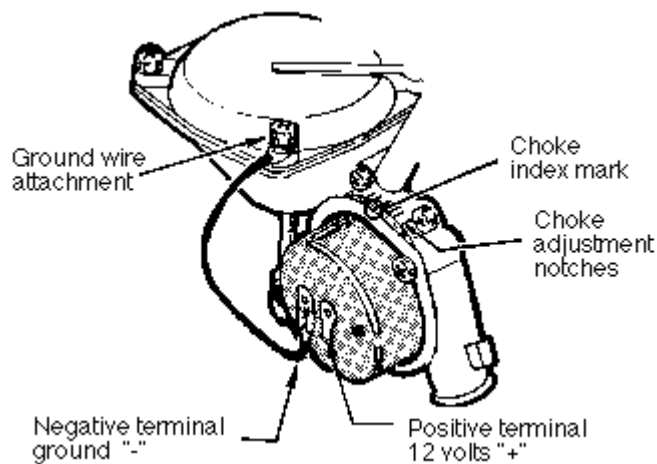

Figure 13
**NOTE:** Be sure the other connector is connected to a good ground. See Figure 13.
1. There will be an index mark on the choke cap and there will be adjustment notches on the choke cap housing. For initial setting make sure index mark is in the center of the adjustment notches. See Figure 13.